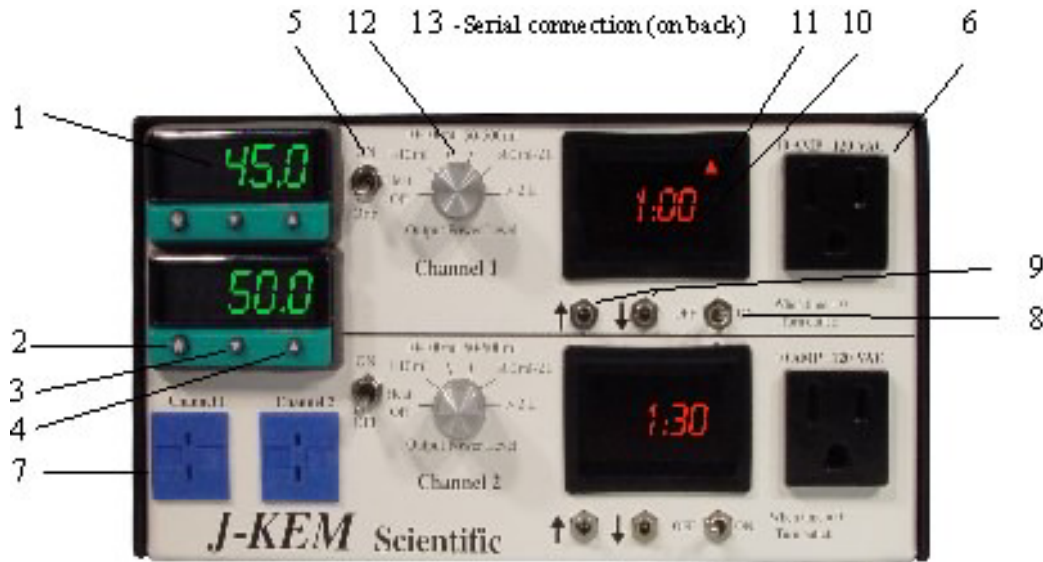

Figure 1
- 3.4 Temperature Sensor Input.** Every controller is fitted with a specific *type* of thermocouple input and can only be used with a thermocouple of the same type. For the correct temperature to be displayed, the thermocouple type must match the receptacle type on the front of the controller (Figure 1; # 7). All thermocouples are color coded to show their type (Blue = type T; Yellow = type K; Black = type J). The color of the thermocouple plug must match the color of the receptacle on the front of the controller. If the thermocouple is broken or becomes unplugged, the error message "inPt" "FAil" blinks in the temperature meter display and the controller stops heating.